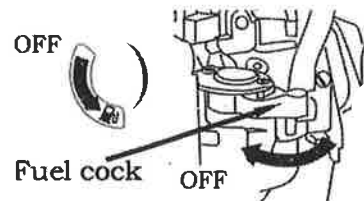

Fig. 14
3. Set the fuel cock to the OFF position (Fig. 14).